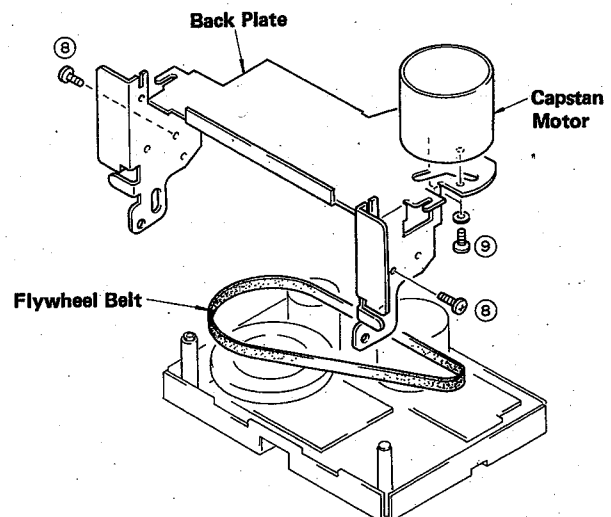

Fig. 4
- a. Remove 2 screws (⑧) in Fig. 4 and then remove the back plate.
- b. Remove 2 screws (⑨) in Fig. 4 and then remove the Capstan Motor.